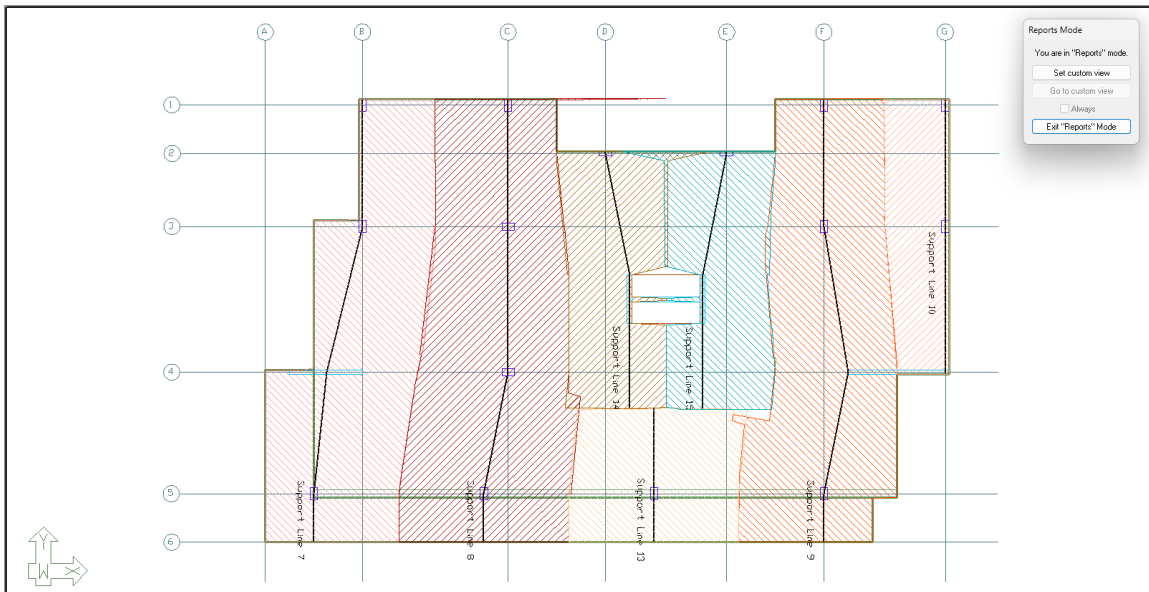

FIGURE 9-34
- Click **OK** on the *User's comment* window to open a report view of the design strips for review as shown in **FIGURE 9-34**.